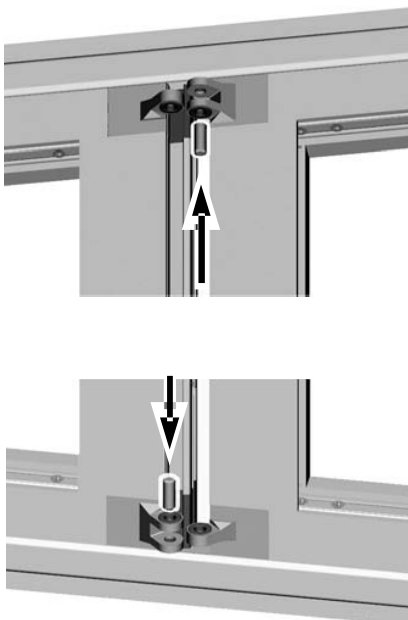

Fig. 2
2. Assemble frame according to Figs. 2, 3 and 4 ensuring that the following are permanently sealed with suitable sealant before and during assembly: butt end of profiles, openings left at the face of profile connectors, openings left at the face of profile connectors for reasons of design, and all installation holes for countersunk screws or taper pins. Note: If there are no drainage holes in the bottom track (U), please check whether such holes are required and drill them if necessary.
4. Fix frame horizontally and vertically. The installation must be permanently secured against twisting and deflection. This is of special importance in the area where the panels are to be stacked. Seal the fixing screws in the bottom track (U) permanently against penetration of dampness into the building fabric.
3. Install the adjoining panel and support by spacer, at the same time half opening both panels and partially knock in hinge pins. Close both panels and fasten (see Fig. 2).